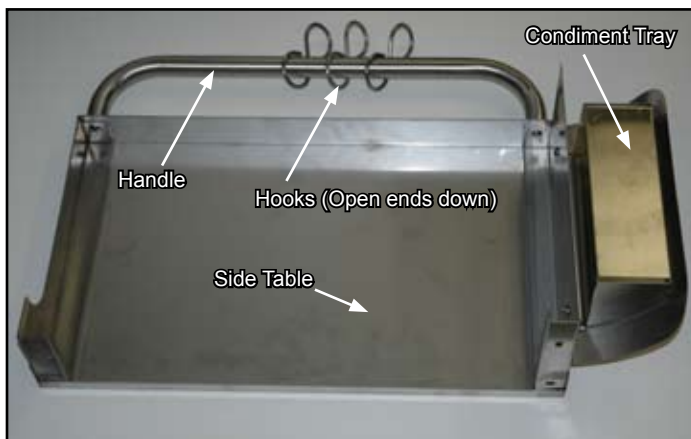

Figure 17
3. Slide three cooking tool hooks onto one side handle with the open ends of the hooks facing down toward the work surface. Align the handle with the two holes on the side bend of the side table. Run two screws through the table into the threaded holes in the handle and tighten the screws with a Philips head screwdriver. Repeat this procedure with the second side table. See Figure 17.